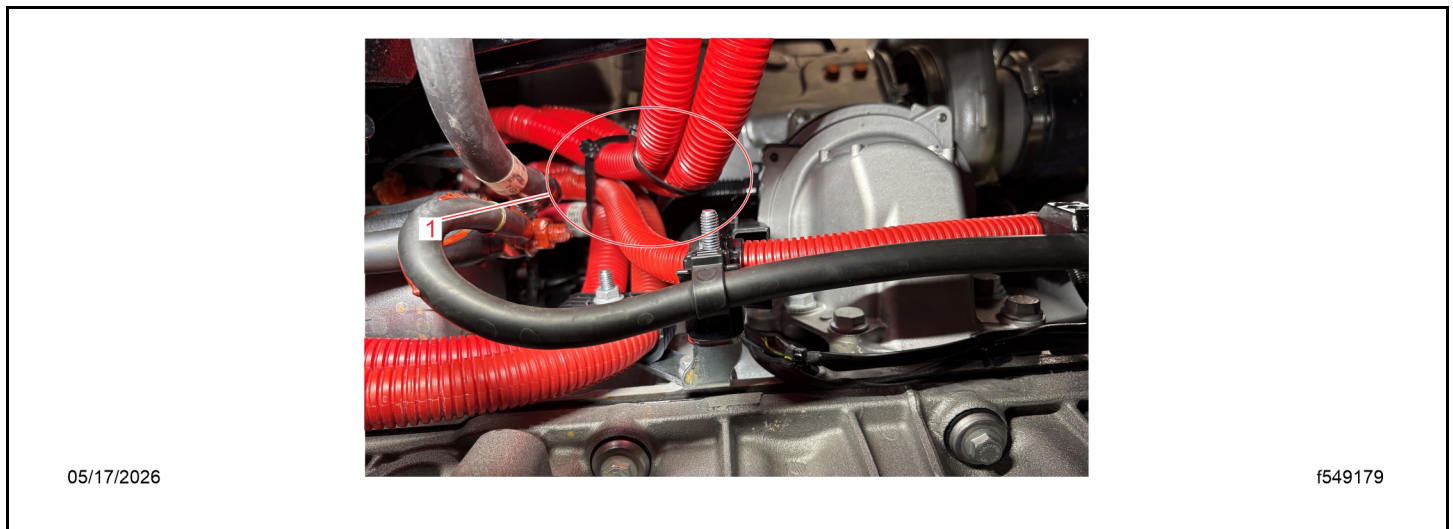

Fig 81, Securing the Cables
33. Route the starter and jump-start auxiliary BCA cables next to the other heavy positive cable(s) from the starter to the lower frame rail support bracket. See Fig. Fig. 81.